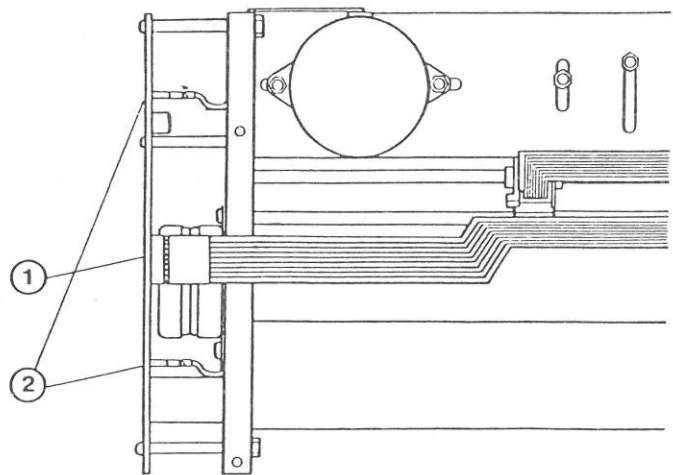

FIGURE 10
4. Turn the chassis up and disconnect the print head cable (Figure 10, #1).
5. Disconnect the left margin switch connector (Figure 10, #2).
NOTE: On the EMI version of Silentype, the left margin switch consists of two wires, as shown in Figure 10. Earlier Silentypes have only one wire (the rear one).
11. Tip the chassis back down. Plug in the motor plugs (on each, the orange wire connects to the top pin) and the interface cable (Figure 10, #1 and 2). Remove the tape from the frontmost plug.